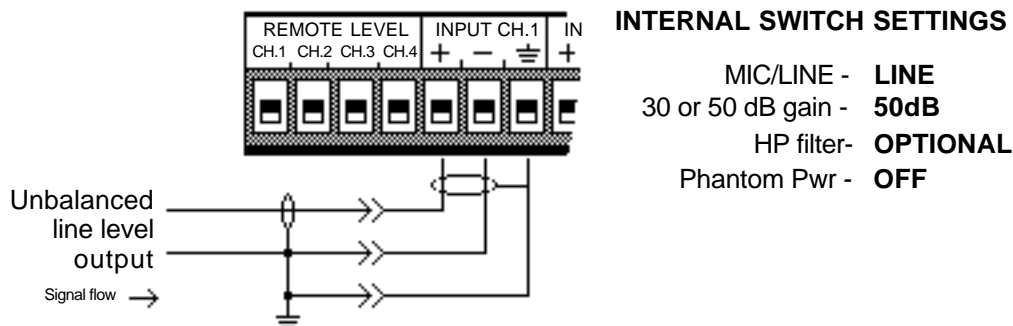

Figure 6
*The Mic/Line switch must be set to the Line position. The 30/50dB gain switch should be set to the 50dB position. The setting of the High Pass Filter is optional. The Phantom Power Switch should be set to the OFF position, as shown in Figure 6 following:*